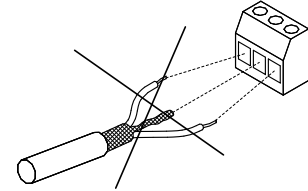

Fig. 27 Do not twist the screen ends
- Avoid terminating the screen by twisting the ends. See fig. 27. Use cable clamps or EMC screwed cable entries instead.